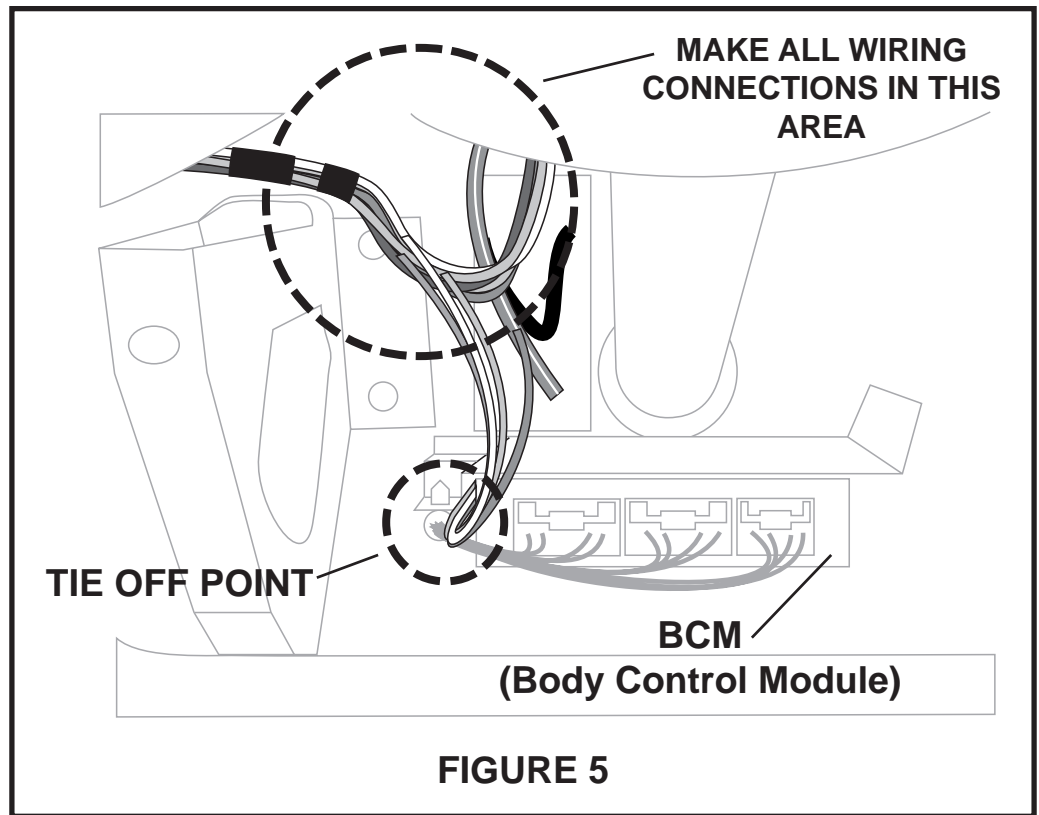

FIGURE 5
Figure Reference: Figure 5
- ⇒ Run main power harness from bottom of the dash to "tie off point" as shown in Fig. 5.
NOTE: ALL CONNECTIONS SHOULD BE MADE IN AREA INDICATED BY CIRCLE IN FIG. 5 TO ALLOW WIRING SHIELD (REMOVED IN STEP 3) TO BE EASILY REINSTALLED.
Figure Reference: Figures 5 and 6
Figure Reference: Fig. 5